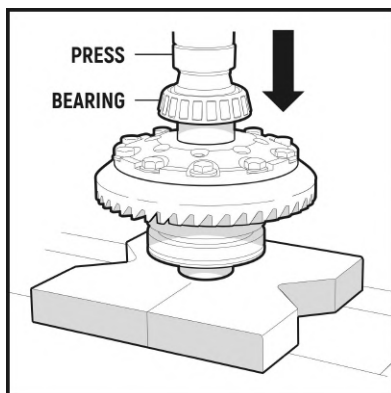

Fig. 23
2.12 Press the bearing cones onto the journals. If the bearings are to be reused, install them according to the previously made marks. (**Fig. 23**)